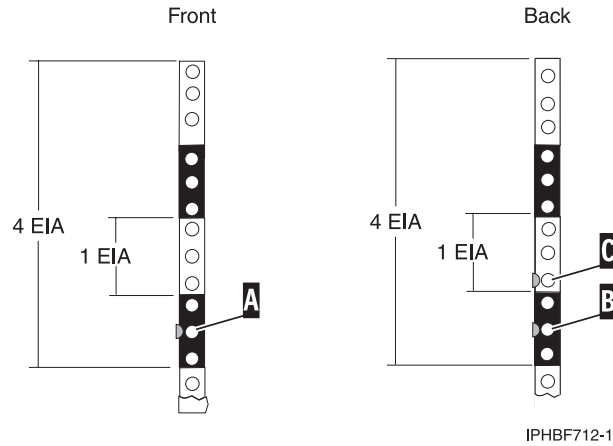

Figure 58. Marking holes on the front and back of the rack frame
2. Facing the front of the rack and working from the right side, place a self-adhesive dot next to the middle hole of the bottom EIA unit (A) in Figure 58 on page 63.
5. Place a self-adhesive dot at the middle hole of the bottom EIA unit, **(B)** in Figure 58.
6. Place a self-adhesive dot at the bottom hole of the next (higher) EIA unit, **(C)** in Figure 58.